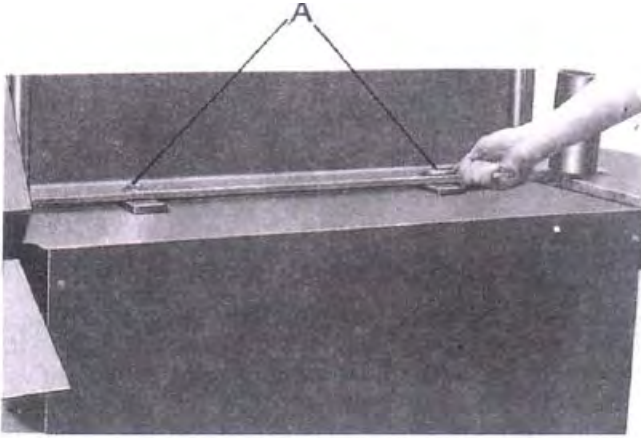

Fig.8.
3. Loosen the two fixed screws (A), Fig. 8 on the steel platen.